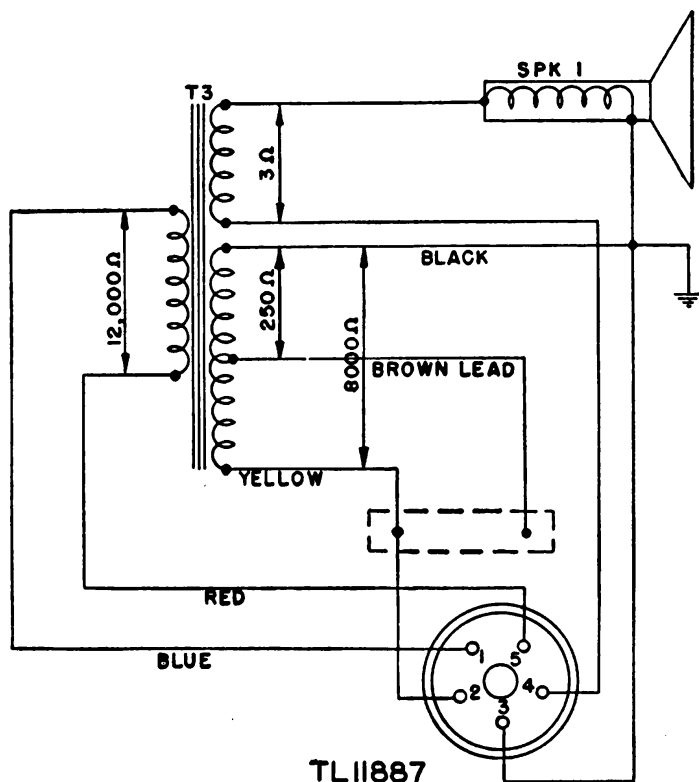

FIG. 6.1.—Transformer T₃ in Radio Set SCR-593-C, showing 250-ohm audio output tap.
1. Radio Receiver BC-728-A.—Radio Receiver BC-728-A * * * front panel. On Radio Set SCR-593-C, produced on Order . 31188-Phila-43, an additional 250-ohm tap has been provided on the 8,000-ohm secondary winding of transformer T₃, which will allow the use of a low impedance headset by changing the impedance to which the set is connected. (See fig. 6.1.) A tag has been placed on the exterior of the case of these sets, with the impedance to which the set is connected marked on it. When the impedance is changed by using the 0-ohm tap, this nameplate must be reversed. The loudspeaker does not operate when a headset is plugged in.